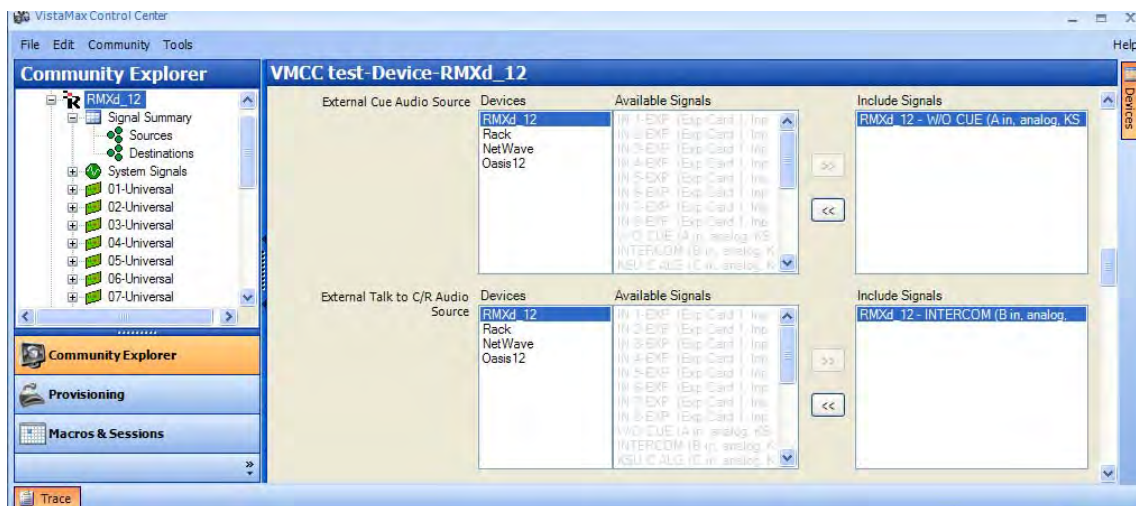

Figure 4-26. VMCC Main Console Edit Pane – External Cue and External Talk to C/R Audio Sources
Use these two signal settings to assign two console or system inputs as the sources for an External Cue input and an External Talk to Control Room input (Figure 4-26). The External Talk signal could be from a VistaMax intercom or from another switched source. The External Talk to Control Room signal is automatically routed through Phantom channel 3 to the Talk to CR bus. The External Cue signal is automatically routed through Phantom channel 4 to the Cue bus. You can then control these phantom
1. Click **Tools** | **Folder Shortcuts** to open the **Folder Short Cuts** dialog box (Figure 4-26).